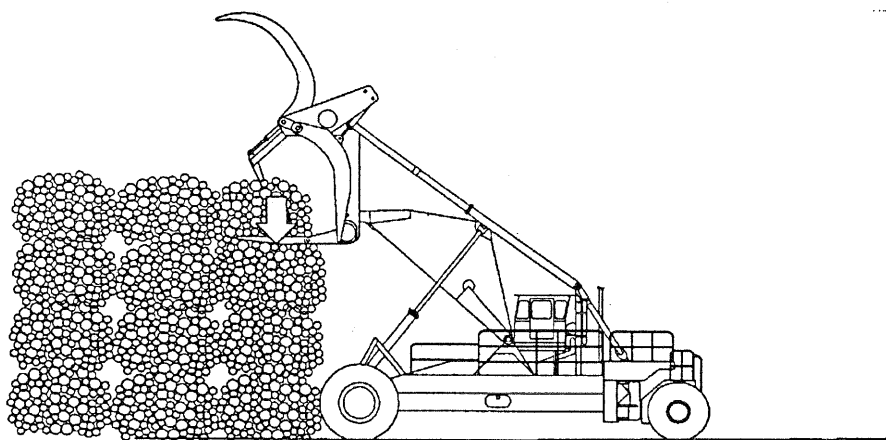

Fig 4-19
3. Always stack bundles in vertical piles - not interlocking. This will make retrieval much easier. Also, when stacking one bundle on top of another, press down on the lower bundle with the carriage. This will flatten the lower bundle and make the deck much more stable and retrieval easier. See Fig. 4-19.